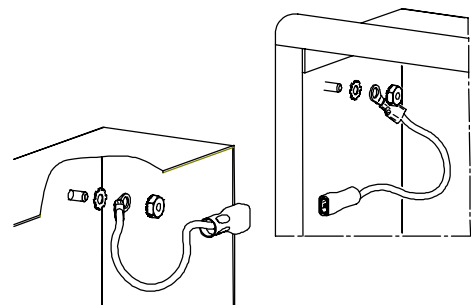

Figure 3: Ground strap
7. Attach a grounding strap from the ground strap stud in the cabinet to the outer door. (See Figure 3.)